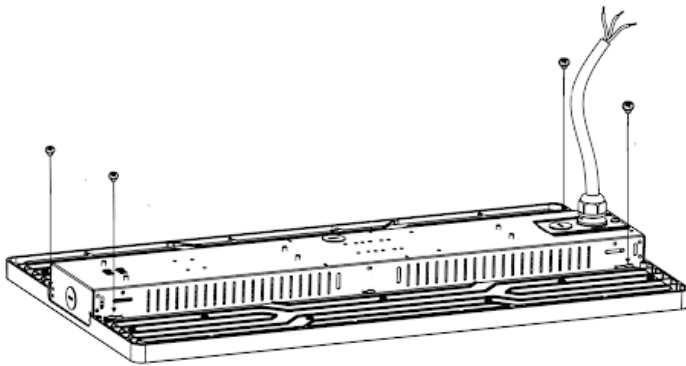

Fig. 1
1. Loosen the 4 screws and remove the LED driver compartment cover (Fig. 1).